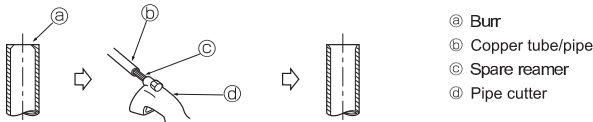

Fig. 5-3
5.2.2. Burrs removal (Fig. 5-3)